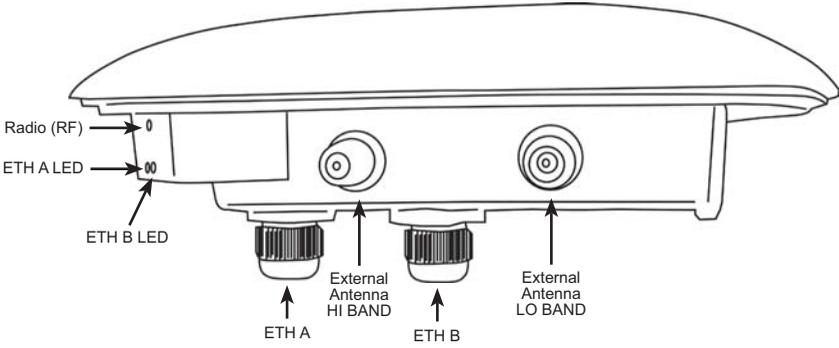

Figure 3-4a Connections on the PRO TOTAL unit
3. Connect the PoE Injector via the RJ45 jack running from the ETH OUT port on the back to the Ethernet Port ETH A on the unit (as shown in Figures 3-4a and 3-4b).
1. Connect the antenna RF cable to the Nexus antenna connector, either the High (5.x GHz) or Low band (2.4GHz) radio port (see Figure 3-4a).
The second RJ45 port, ETH B, as shown in Figure 3-4a, is available for daisy chaining to another device. To connect the second device, follow the procedure outlined for connecting the RJ45 cable on page 10. This is not applicable for the airClient Nexus TOTAL (sB3413 and sB3414) which does not have a second ethernet port.